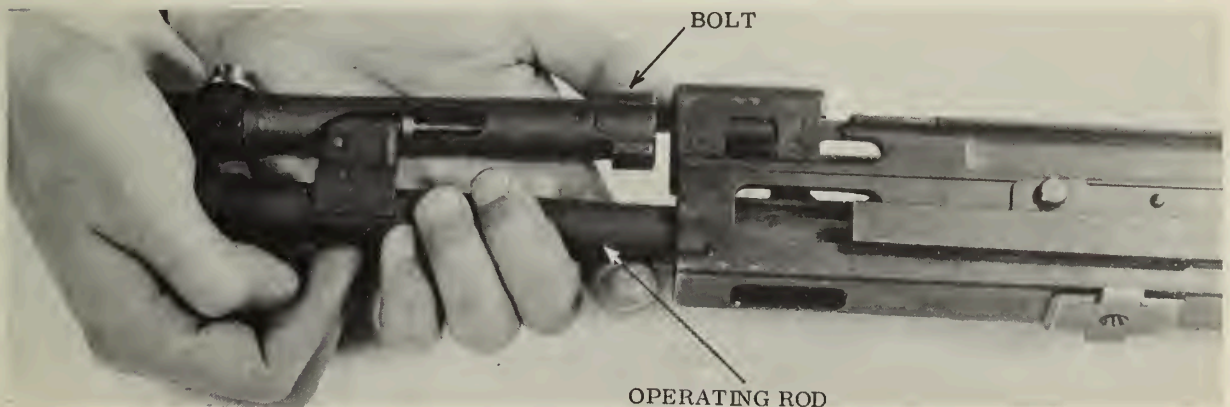

Figure 19. --Rotating the Bolt.
(1) Insert the forward end of the operating rod about six inches into the receiver.
(2) Grasp the operating rod with one hand. Place the palm of the other hand against the rear of the bolt and push forward on the bolt causing it to rotate 1/4 turn counterclockwise. (See fig. 19.)